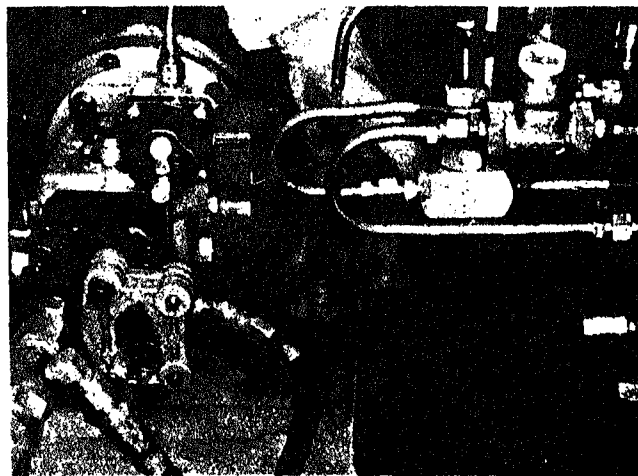

Fig. 511-23. Measure throttle leakage
5. Place hose from valve at end of orifice block into 200 cc glass graduate. Check fuel delivery for one minute. Do not keep at this setting any longer than absolutely necessary. Fig. 511-23.